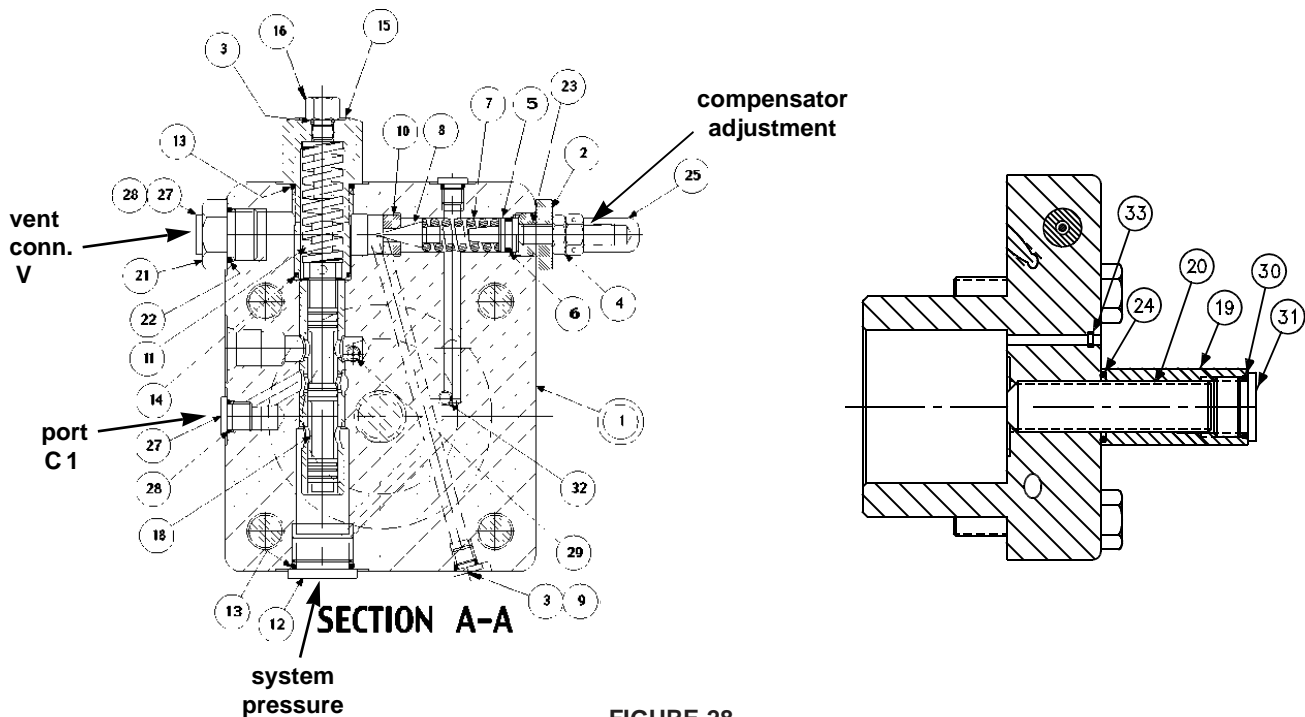
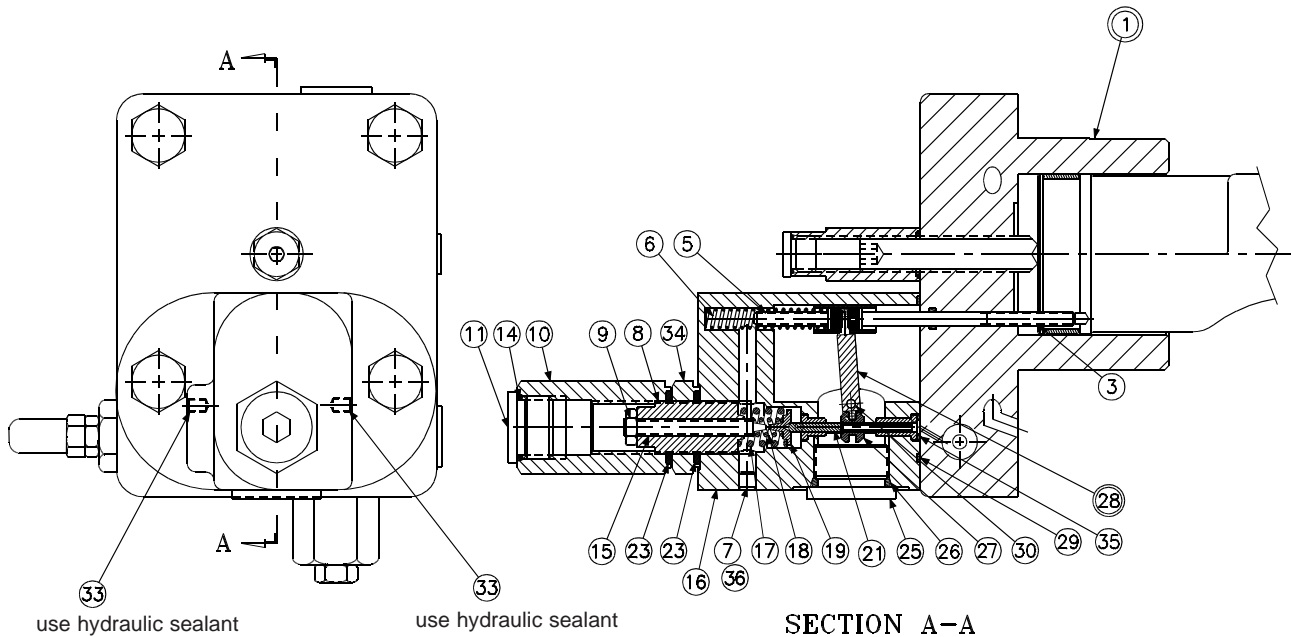

FIGURE 28
FIGURE 29
PARTS LIST FOR FIGURE 28
PARTS LIST FOR FIGURE 29
1. See figure 29. Remove 2 screws holding torque limiter body (16) to cap assembly (1).
2. Remove all parts from torque limiter body (16) except pin (30) and arm assembly (28). It is not necessary to remove these parts unless broken or worn. Examine parts for wear or damage.
3. Remove screw (3). Examine head for excessive wear, and body for smooth sealing surface with O-ring.
4. See figure 28. Remove maximum volume stop assembly (items 19, 20, 24, 30, 31).
5. Remove cap assembly (1).
6. Remove plug (15) and attached parts. Remove spring (11) and spool (18).
7. Remove adjusting plug (2) and attached parts. Remove seal piston (5). Note: a 10-24 screw may be attached to assist in pulling the piston. Remove spring (7) and cone (8).
8. Do not remove sleeve in body (1). Sleeve is pressed into cap and finished to size. If sleeve, snout or cap is worn, replace the cap-sleeve assembly (1).
9. Examine seat (10) for wear. Do not remove unless damaged.
1. See figure 28. Install plugs (9) and o-rings (3) orifice (29) and screw (32).
2. Press seat (10) into bore squarely against shoulder in bore.
3. Install spool (18) into bore as shown. Install spring (11) over end of spool. Install plug with stop (16) into plug (15). Install plug (15) into cap.
4. Install O-ring (6) on seal piston (5).
5. Lubricate O-ring and install cone (8), spring (7) and seal piston into bore in cap (1), being careful that cone enters seat (10). Install adjusting plug (2), screw (25), nut (4), and acorn nut (25).
6. Install plugs (12), (21) and (27) and torque.
7. Carefully install O-ring (33) into the cap.
9. Install maximum stop screw (20), cover (19), O-ring (24) and plug (31) with O-ring (30).
10. See figure 29. Apply thread locking compound on threads of screw (3), lubricate the shank, thread through the cap into the control piston, and torque to 5 lb. ft. (6,78 Nm).
12. Press dowel (30) into body (16), through the link assembly (28), to 1/4 (6.35 mm) below surface. Apply hydraulic sealant to threads of screws (33) and install over dowel (30).
13. While sleeve (27) is engaged into dowel on link (28), slide spool (21) into bore of body (16), and through sleeve (27). Spool (21) must move freely and easily at all positions of the link (28).
14. Assemble remaining parts per drawing. Torque plug (11).
15. While spring retainer is engaging clevis pin (5) under dowel of link (28), slide the other opening of spring retainer over the top of the screw (3). Attach body assembly (16) to cap (1), and torque assembly screws to 75 lb. ft. (102 Nm).